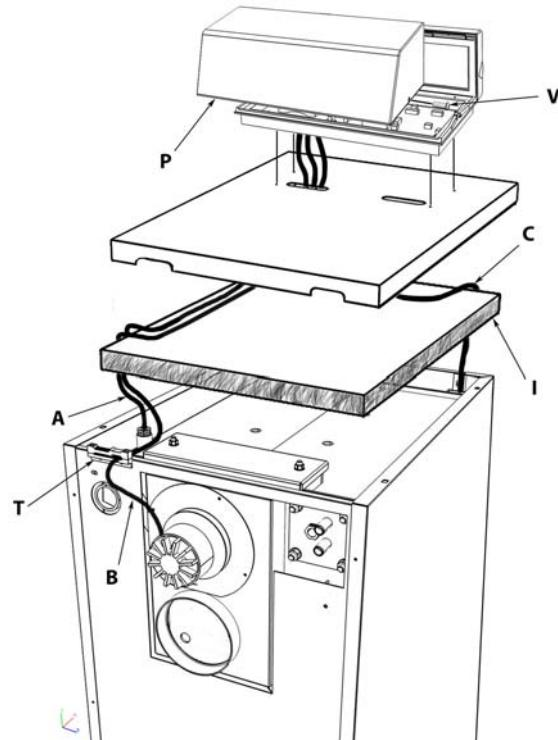

fig. 4 - Fitting the control panel
2. Arrange the cables of the fan "B", the sensor "A" and the door microswitch "C" as shown in fig. 4.